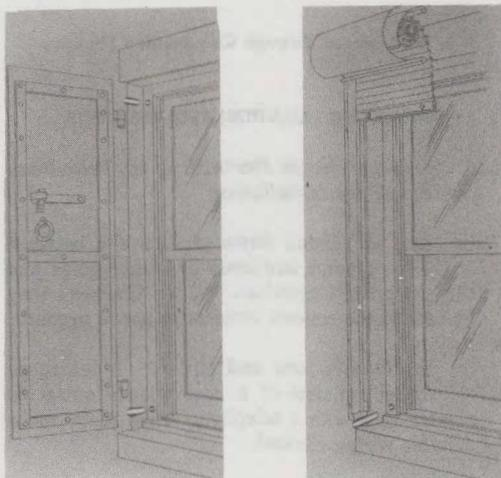

Fig. 2—Entrance at Shutter of Fire Screen
- (c) Cut slot in seam of brick as shown in Fig. 2. Be sure slot is deep enough so wire is cleared when shutter or screen is operated.